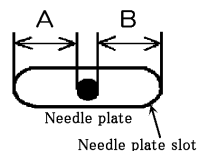

Fig.1
2. Measure the relative position (A, B) between the needle and the slot.(Fig. 1)
A = B (Fig. 1)